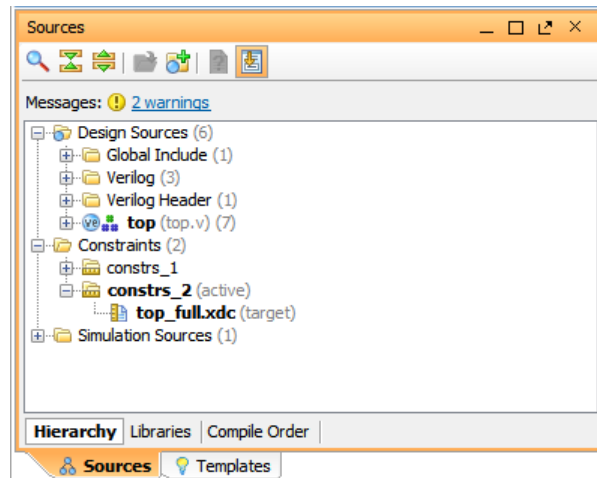

Figure 6: Sources window
1. In the Sources window, **expand** the **Constraints** folder to ensure constrs_2 is active, as shown in Figure 6.